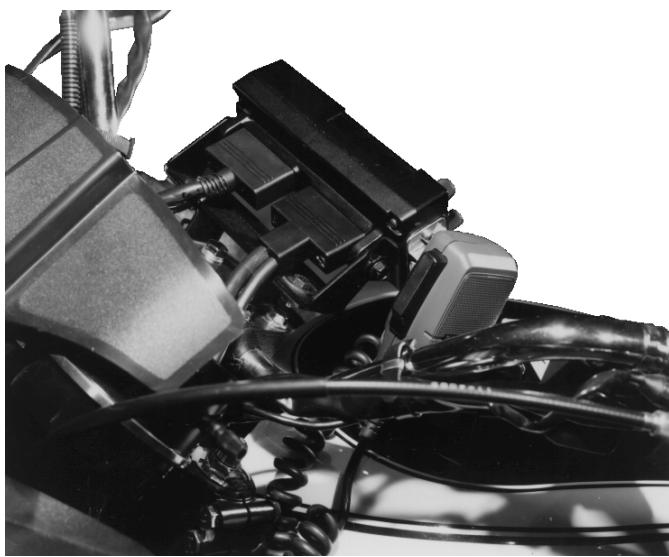

Figure 7-6: Control Unit Connections
6. Route the control cable to the rear of the control unit and make the connection to the right rear of the control unit as shown in Figure 7-6. Any excess cable will reside beneath the saddle area. (The option and accessory cable is shown connected to the left rear of the control unit).